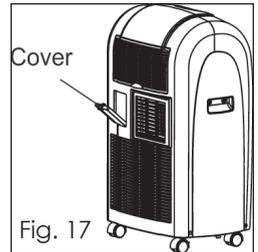

Fig. 17
- Press the locking lever above the power cord cover downwards, the cover will be opened (see Fig. 17).